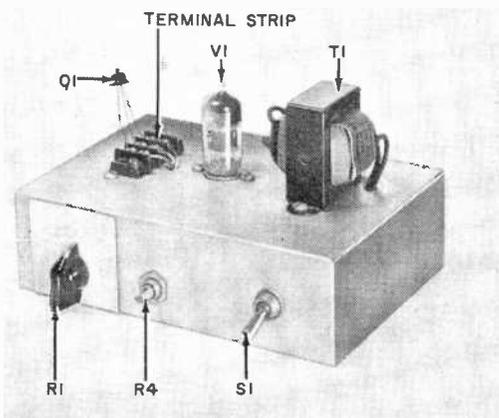

Fig. 2. Top view of thermostat. Transistor is connected to a barrier-type terminal strip.
**Construction.** The unit is assembled on a 2" x 7" x 5" chassis, with tube *V1*, transformer *T1*, and transistor *Q1* located above the chassis. (See Fig. 2.) Note that the transistor isn't actually mounted on the chassis proper, but is simply connected to a barrier-type terminal strip. This arrangement makes *Q1* less sensitive to heat radiation from the tube and transformer and makes it an easy matter to remove the transistor for use in remote locations.